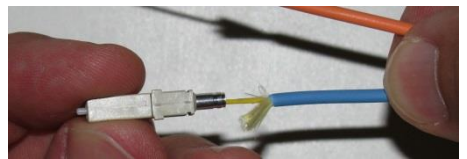

Figure 12
4.3. Insert the fibre into the connector until it appears on the ferrule end face (figure 12).